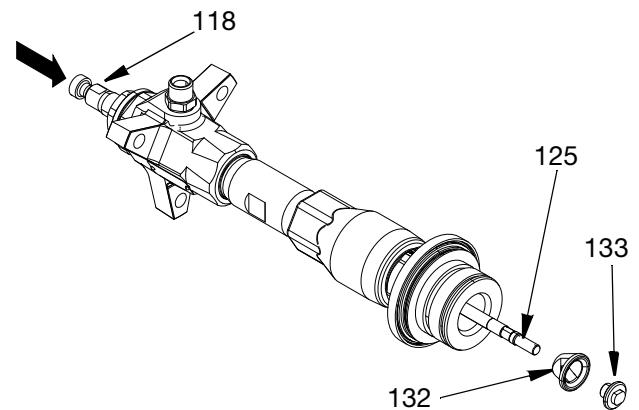

FIG. 7
4. Push on the upper displacement rod (118) to expose flats of the lower shaft assembly (125). Hold flats of the lower shaft assembly (125) with an adjustable wrench, and use a second wrench to unscrew shovel nut (133) from lower shaft assembly. Slide shovel piston (132) off rod. Inspect surfaces of shovel nut and lower shaft assembly for scoring, wear, or other damage. See FIG. 7.